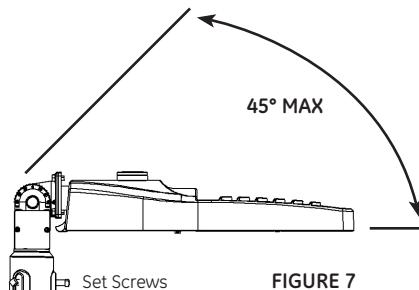

FIGURE 7
- To aim the luminaire loosen the knuckle bolt, adjust the aim 0° to 45° (see Figure 7), and tighten to 45-50 ft-lbs (61-68 N-m).